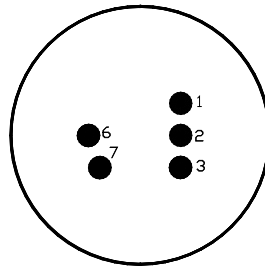

Figure 13: Sensor PCB
- Remove plug-in H₂S sensor and verify resistance between PIN 2 and PIN 3 (Shown in Figure 13) using an ohmmeter. At room temperature, the heater film's normal reading should range between 65 and 95 ohms.
- Remove plug-in H₂S sensor cell and verify resistance between PIN 6 and PIN 7 (Shown in Figure 13) using an ohmmeter. At room temperature, the sensor film's normal reading range should be 10-100 k-ohms. For sensors with an "X" in the serial number, the normal reading range should be 75 k-ohms to 2 meg-ohms. Failure would be open circuit.